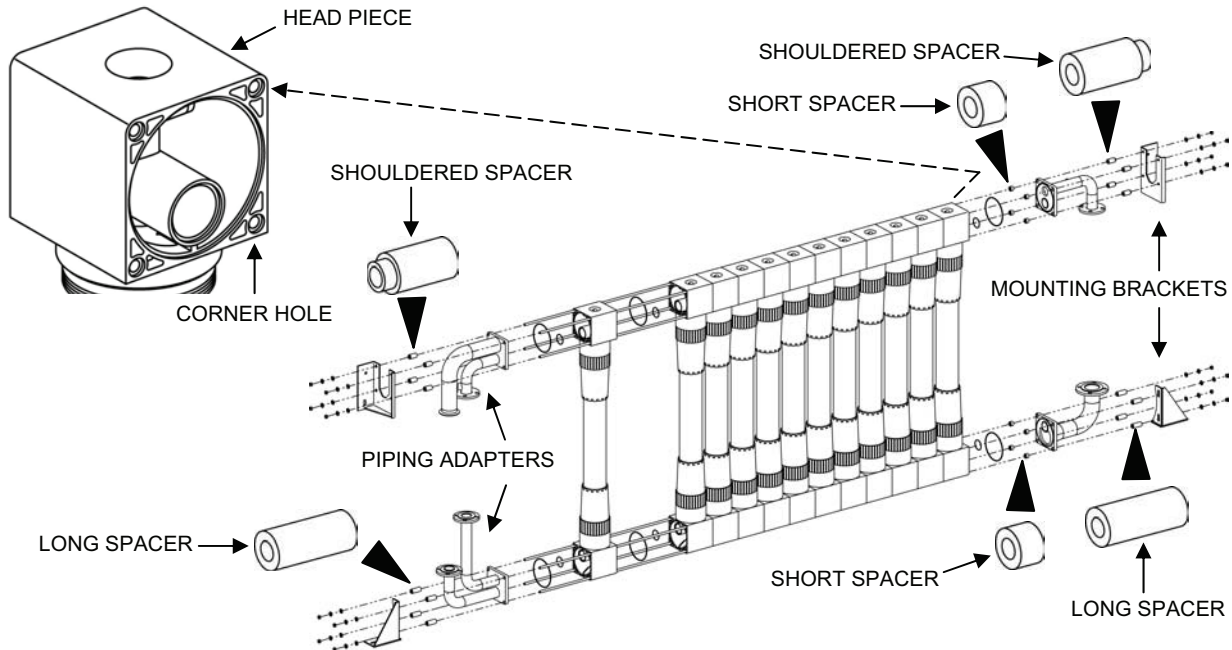

Figure 8. MF Assembly Spacer Installation Detail.
- b. Insert the four small spacers in the four corner holes of the top and bottom MF module head pieces at the inlet end of the MF assembly (see Figure 8).
- c. Secure the two top piping adapters, shouldered spacers (see Figure 8 for proper shouldered spacer orientation), and mounting brackets to the top rods using the nuts and washers removed earlier. Tighten just snug tight until the bottom hardware is installed.